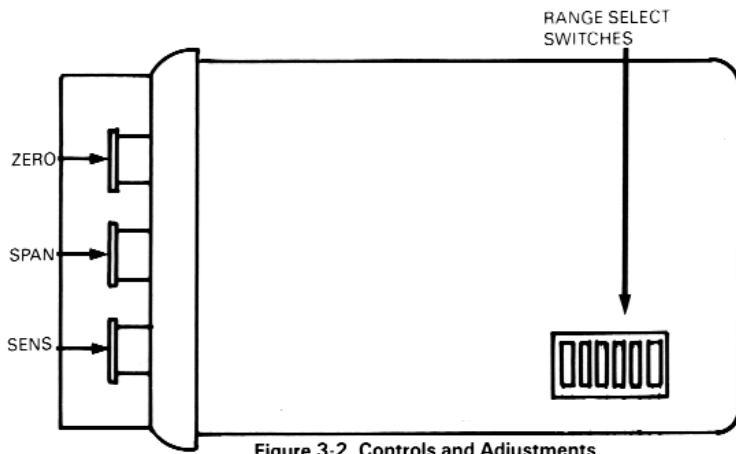

Figure 3-2. Controls and Adjustments
3.2 CONTROLS AND ADJUSTMENTS (See Figure 3-2.)
3.2.1 Replacing the Fuse (see Figure 3-2)